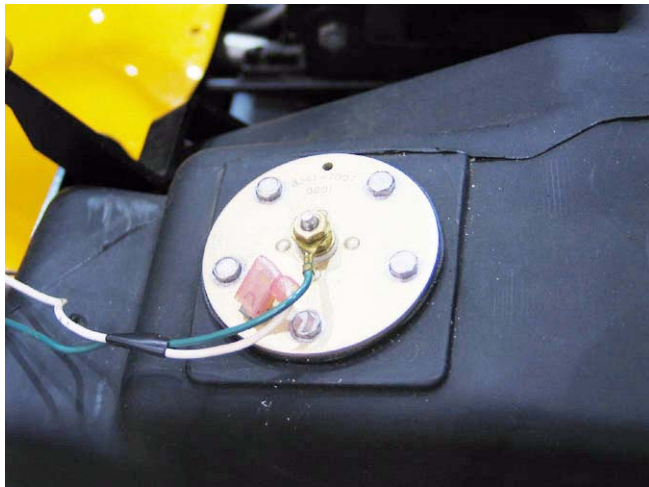

Figure 2.19
2.19. The fuel tank sender unit also lives under the fender, on the left hand side. It is basically a potentiometer actuated by a float. It creates more or less resistance between the white wire leading to pin #7 on the instrument panel and a ground circuit. See Figure 2.19.